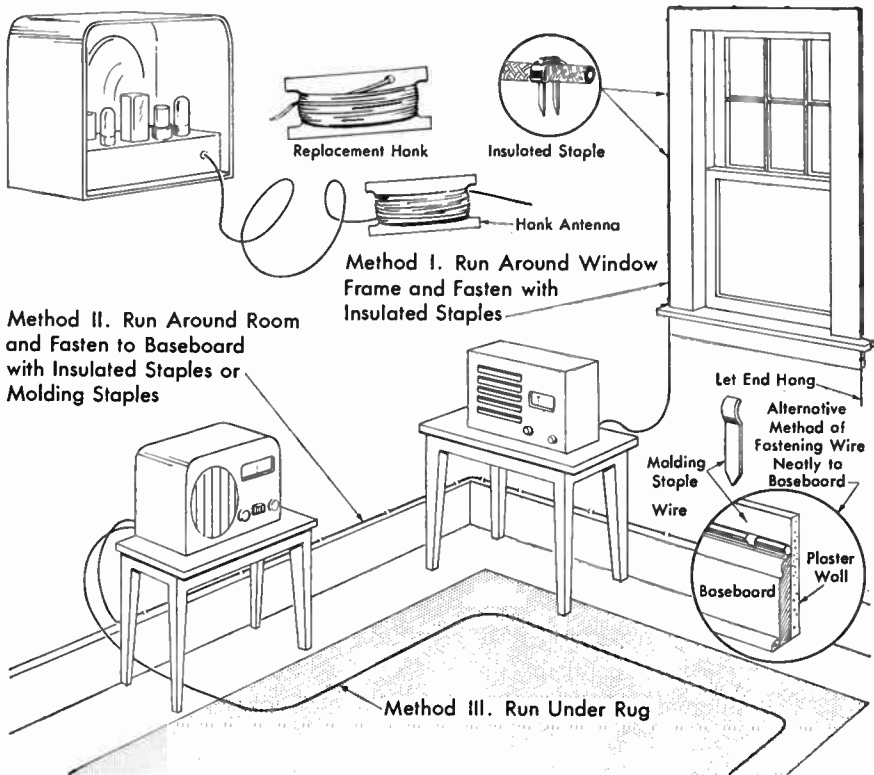

Fig. 3. Different ways of installing indoor hank antennas for a-m radio sets
**Built-in Hank Antenna Wire.** Many table-model radio sets come with a permanently attached hank of insulated wire. This may be wound on a cardboard form or simply wound on itself and tucked inside the cabinet. When this wire is unwound and stretched around the room in one of the ways shown in Fig. 3, good reception will be obtained on local stations in most locations, and quite a few distant stations will be picked up at night if the set is fairly good. The higher the wire, the better the results, but satisfactory results are usually obtained even with the wire run around under the rug on the floor. This is the easiest and quickest way to install it, hence is worth trying.